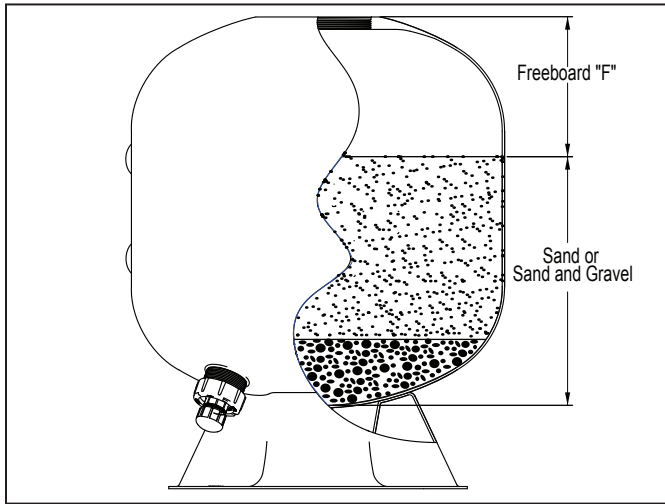

Figure 10. Sand Level
the filter SLOWLY to the level indicated in Table 2. Be careful not to dislodge the vent tubing from its fitting in the piping while adding filter media. Refer to Figure 10.
2. Fill the filter with Zeobrite to the level shown in Table 3. The weight of the material shown is approximate. See Figure 10 for the illustration of "Freeboard".